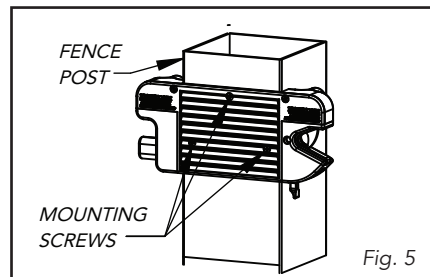

Fig. 5
4. Hold latch at desired height on the fence post. Install (3) flat head mounting screws into the side of the latch (Fig. 5). Install (1) flat head mounting screw in button housing (Fig. 6). Install (1) flat head screw into latch housing (Fig. 7).